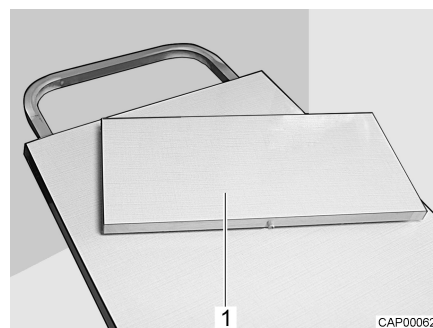

Fig. 28 Table top extension
The suspension table size can be enlarged by inserting a table top extension (Fig. 28,1).
- Insert the table top extension (Fig. 28,1) into the table extension.
- Remove the table top extension (Fig. 28,1) and store it securely.